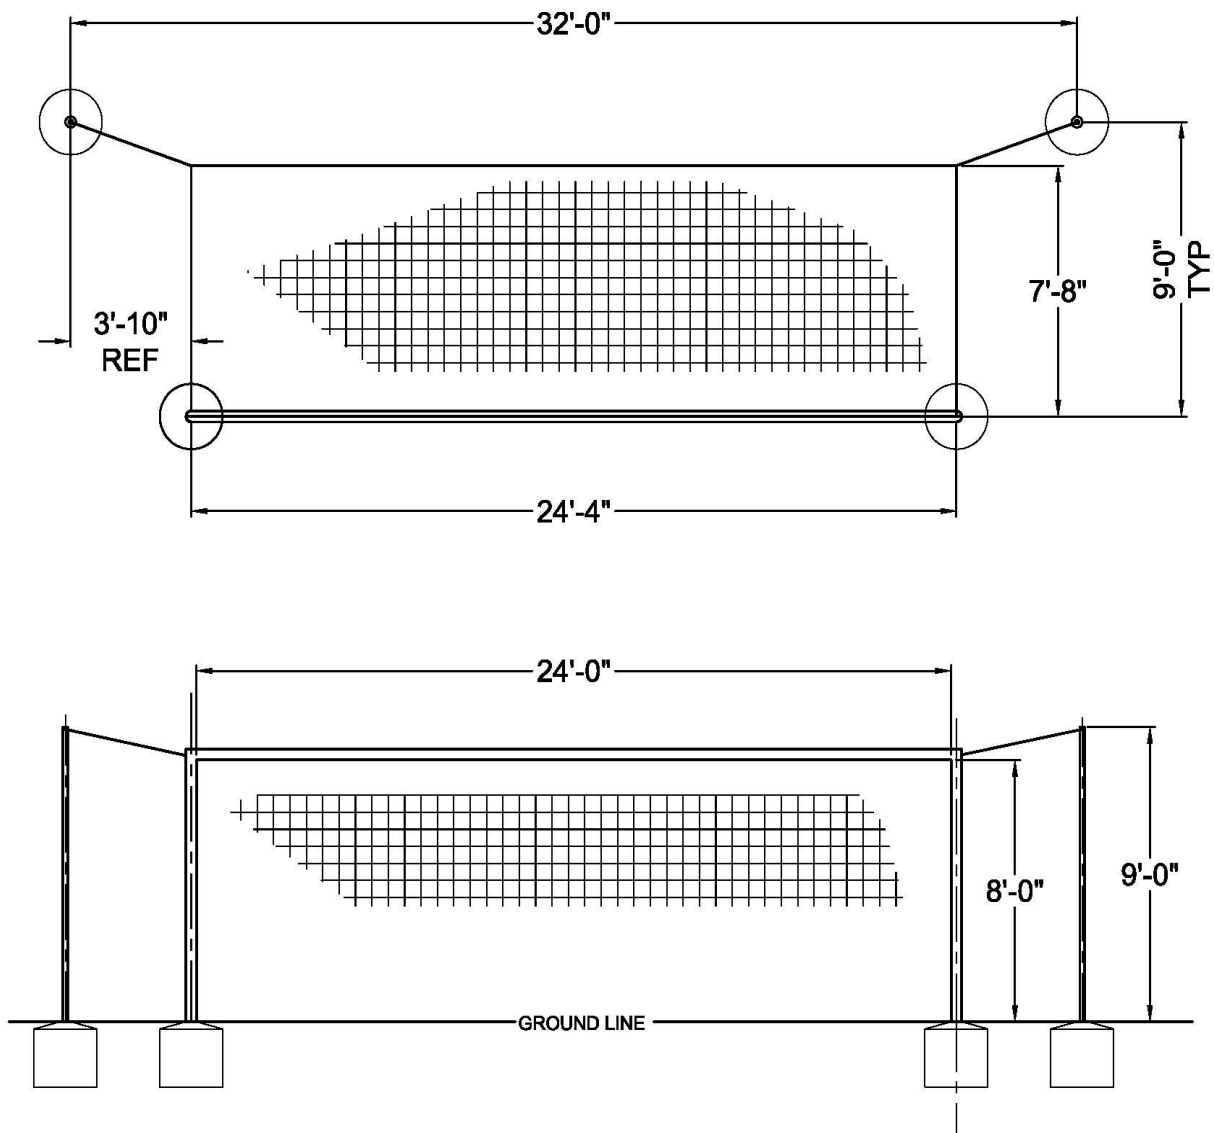

Figure 3
Measure a distance of 24' 4" center to center, prepare the locations for (2) posts to meet your local construction Codes, or the rule of depth, correct for your local frost line. Refer to figure 3 on page #9 for general measurement; please allow enough depth for a good solid base of gravel for proper drainage (6" recommended). The front posts are made from aluminum extrusions and finished to allow for many years of service. Proper installation and maintence is the key factor in extending service life.